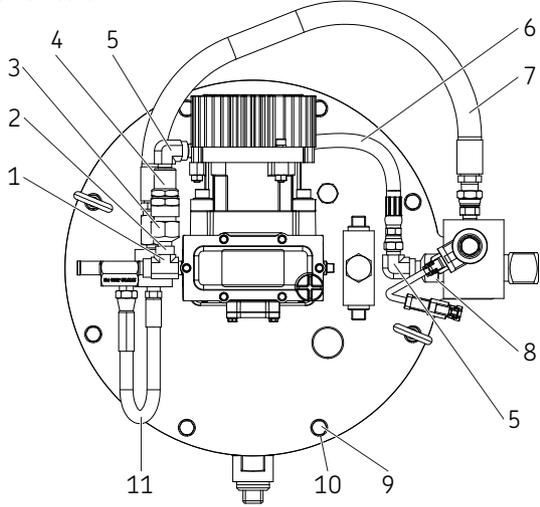

Fig. 4
Pump will not build up sufficient lubricant pressure if outlet check (4) is fouled (→ Fig. 3 and Fig. 4, page 12). Foreign material may lodge beneath check ball (45) or between check disc (43) and seat (44) of bushing assembly (42). Sealing surfaces of seat must form a perfect seal. Clean parts or replace if pitted, worn or scored.
- 1 Turn off and disconnect electric power supply to pump assembly (17).
- 3 Remove elbow (5) and hose (6).
- 4 Remove outlet check assembly (4) and adapter (3) by loosening adapter from tee (1).
- 5 Remove adapter (3) from outlet check assembly (4).
- 6 Remove outlet connector (47) from bushing (42).
- 7 Remove ball check seat (44) from outlet connector (47).
- 8 Pull check disk assembly (43) out of ball check seat (44).